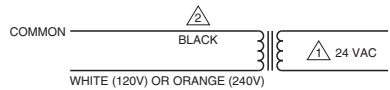

Fig. 11. AT20/AT40 Transformer schematic.
2. Connect primary leadwires to line voltage power supply. See Fig. 11 through Fig. 13.